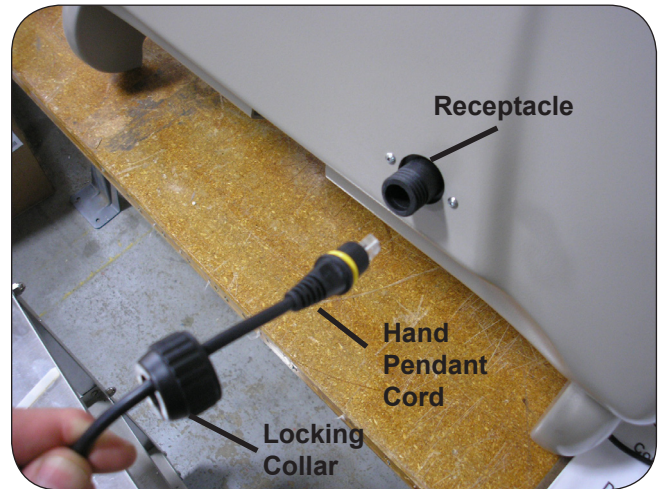

Figure 8
2. Insert the plug end of the cord into the hand pendant receptacle on the backrest shroud. See figure 8.